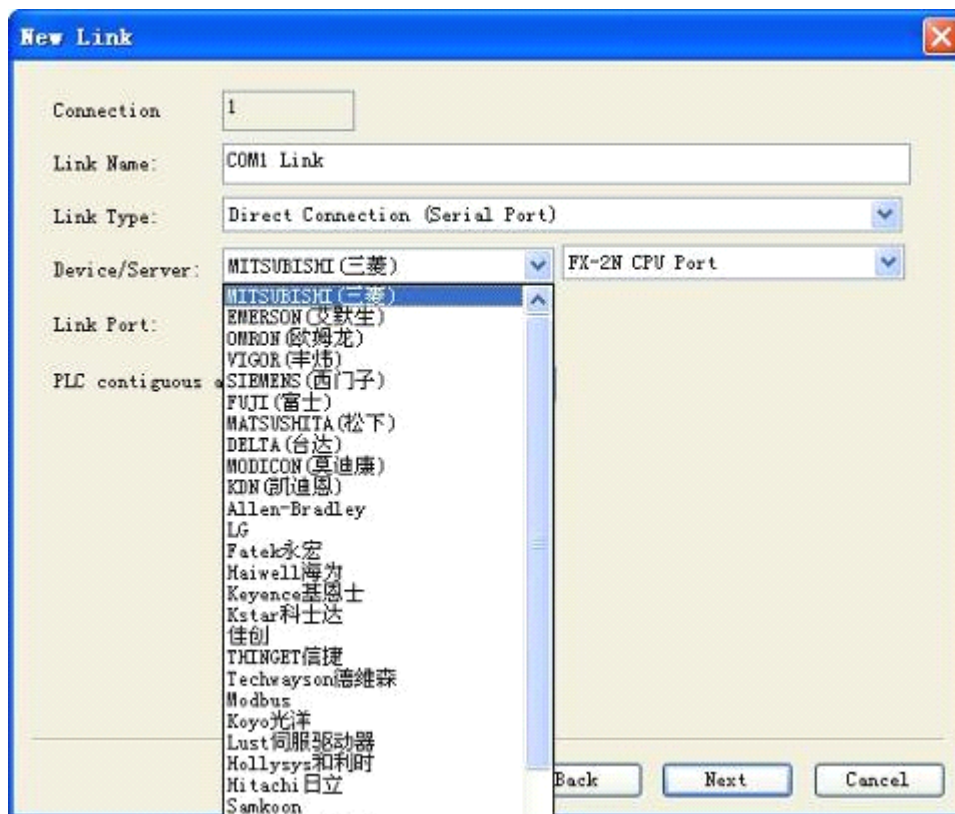

Figure 6-4 Dialog box for communication connection setting of new item
- ✓ Enter project name in column “Project Name”; select one saving position for the project in column "Position"; select “SA-4.3A(480*272 4.3’)” in column “Model Selection” (The 4.3-inch HMI is just taken for example. Users can select other models as required); select “Horizontal” in column “Display Mode” (Users can select vertical display as required). After finishing the setting, information just set by users will display in the below module “Model Parameter”. Users can click “Next” after confirmation to pop up the dialog box as shown in figure 6-4.